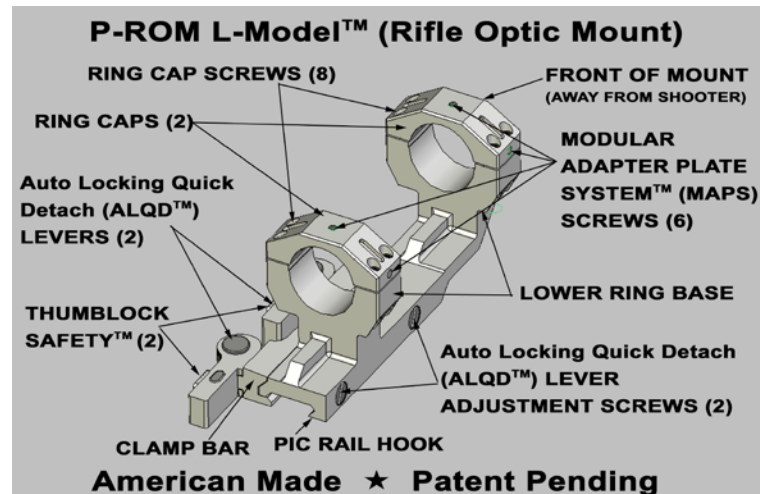

Figure 1. P-ROM M-Model™ (Rifle Optic Mount) ■ Right Side Oblique View
STEP 2. Secure unloaded weapon into level fixed position. Referencing Fig. 1, open forward located Auto Locking Quick Detach (ALQD™) Lever first, by sliding Thumblock Safety™ mechanism rearward (towards shooter) to disengage lock and pull open ALQD™ Lever completely outward until ALQD™ Lever is pointing forward (toward muzzle @ 11 o'clock position). Repeat procedure for rearward located ALQD™ Lever.